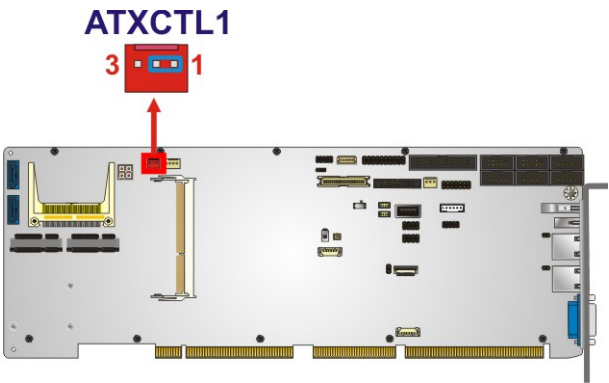

Figure 3-2: ATX Power Supply Enabled Connector Location
- CN Location:**See **Figure 3-2**